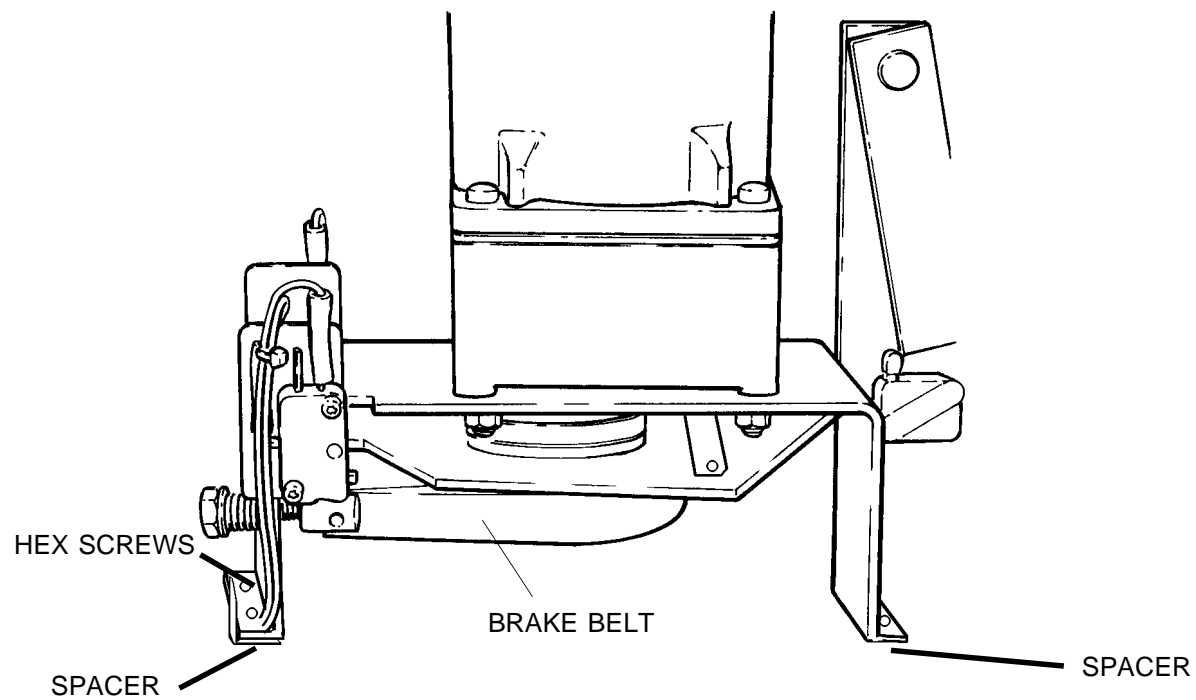

figure 6
- 2.** Take out the 4 HEX SCREWS. See figure 6 on the next page.